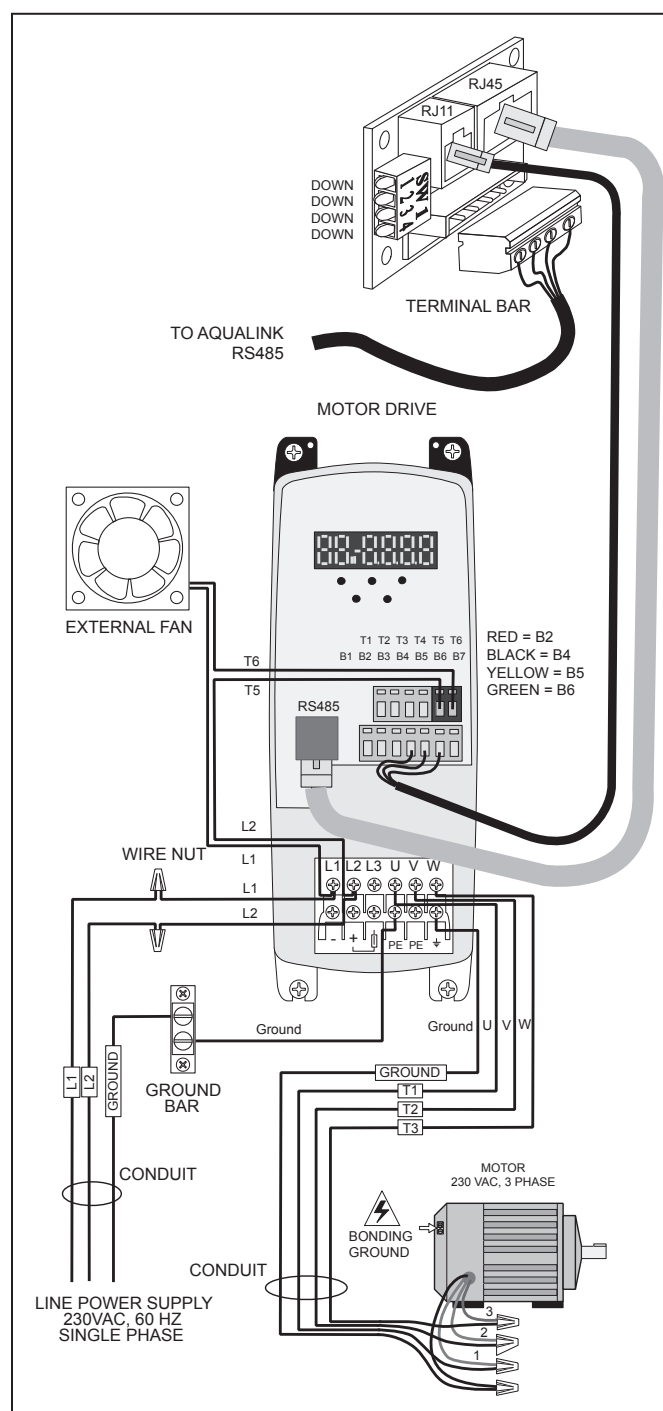

Figure 9. Wiring of the Jandy ePump™ AC Variable Speed Pump to the Motor Drive
This section describes how to connect a Jandy ePump™ AC variable speed pump to the power. As shown in Figure 9, the 230VAC single phase power is supplied to the motor drive. The motor drive supplies the motor with 230VAC three phase power. Low voltage RS485 communications cable from the power center is supplied to the motor drive as well.
6. Permanently ground the motor using green ground wire, as shown in Figure 9. Use the correct wire size and type specified by the Jandy ePump™ AC Variable Speed Pump to the Motor Drive.
7. Bond the motor to the pool structure in accordance with the National Electrical Code (NEC) and the Canadian Electrical Code (CEC). Use a solid No. 8 AWG or larger copper conductor. Run a wire from the external bonding lug to the pool bonding structure, as shown in Figure 9.
As shown in Figure 9, the 4-position dip switch is located on the VFD voltage regulator PCB inside of the motor drive enclosure. This dip switch serves two different functions - it determines what type of control will be used with the pump and it selects the pump address. The SW 1 (switch 1) and SW 2 are turned ON if the pump is to be controlled by stand alone controller or OFF if the pump is to be controlled by the AquaLink® power center.
Refer to Figure 9.